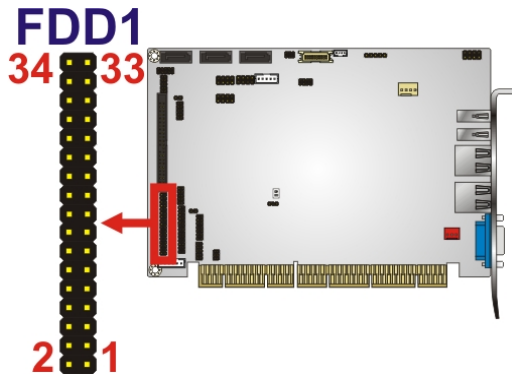

Figure 3-8: 34-pin FDD Connector Location
- CN Location:** See **Figure 3-8**